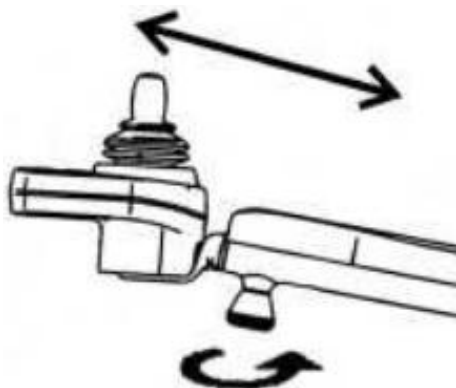

Figure 8
► Controller installation: sit on the power wheelchair, then loosen the plum bolt, insert the controller fixing rod into the frame tube and lock the plum bolt, see Figure 8. (If the controller is installed on the left hand side, the adjustment method is the same).